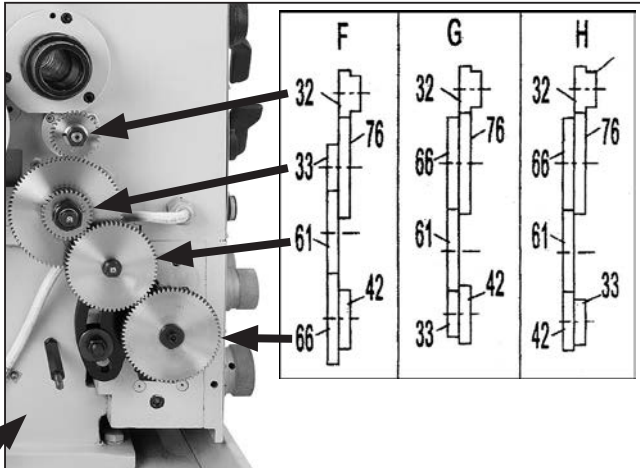

Figure 51. Change gear and chart relationship.
—"F" is the first letter in the sequence and indicates that the change gears must be rearranged in the "F" sequence as shown in **Figure 51**. The change gears are located on the left-hand side of the lathe, behind the headstock gear cover shown in.
- Leaving 0.003"–0.005" backlash between gear teeth, arrange the change gears to match the order under "F" (see **Figure 51**).